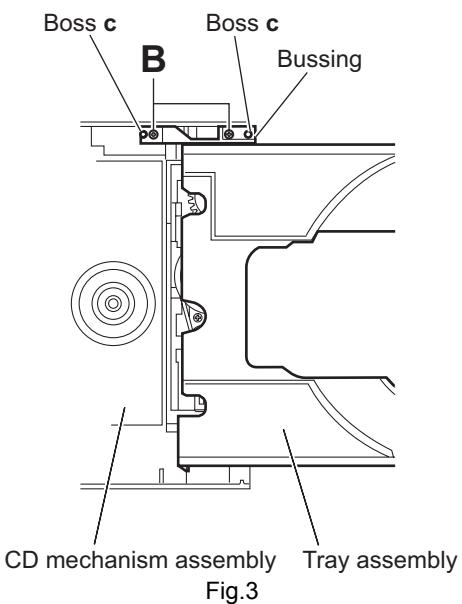

Fig.3
- (2) Remove the two screws **B** attaching the tray assembly from upper side of CD mechanism. (See Fig.3)
- (3) Remove the bussing of the tray assembly from boss **c** of the CD mechanism assembly and remove the tray assembly. (See Fig.3)